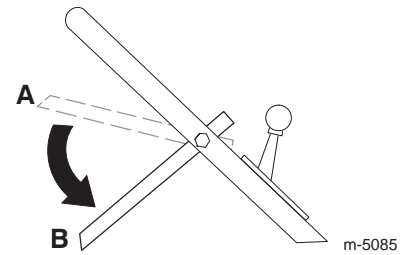

Figure 14
9. Release the blade control bail; refer to position B in Figure 14. You should hear a “bang.” The blade should stop in three seconds.